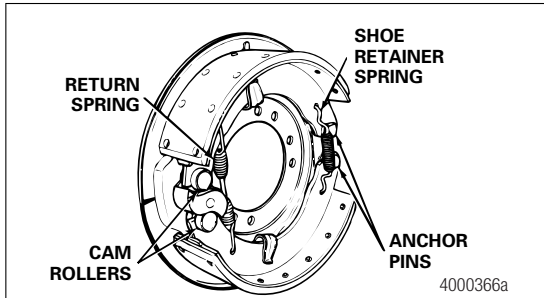

Figure 5.23
- Install a new brake shoe return spring with the open end of the spring hooks toward the camshaft. Install the brake shoes onto the anchor pins. Figure 5.23.